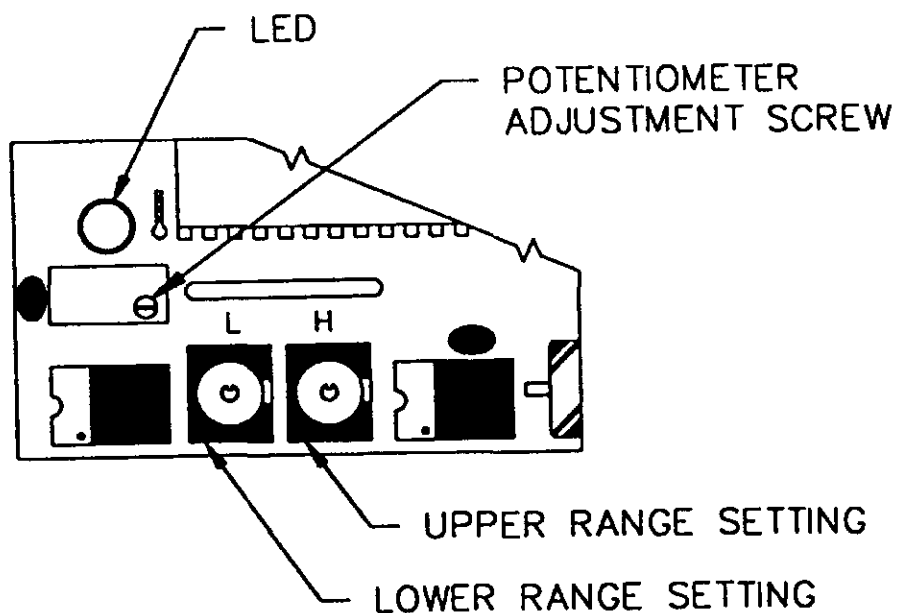

Figure 1
2. With power on, pull pendant trigger to full on position. Adjust potentiometer adjustment screw located next to the red light (see Figure 1) until light just turns off, then turn trim pot back until the light just comes on. The light should stay on during the full trigger movement. Clockwise rotation to the trim pot will turn light off. Counterclockwise rotation will turn the light on. This “tunes” the amplifier to the trigger potentiometer.
3. After warming the hydraulic system oil, determine which function should be used to set the low position switch (ROTATE USES THE LEAST AMOUNT OF PRESSURE). Activate that function with trigger released, and turn the lower range setting dial (REF. FIG 1: MARKED WITH “L” ON CIRCUIT BOARD) until the desired speed is reached. The “Zero” and the “F” on the dial are opposite ends of the switch. To adjust the low set point, **turn CLOCKWISE DIRECTION for INCREASED FLOW, COUNTER CLOCKWISE DIRECTION for DECREASED FLOW**. This adjusts the “Threshold Speed” for the trigger in the released position.
4. Operate the boom up function with trigger pulled back to the maximum position. Turn the high range setting dial (REF. FIG 1, MARKED WITH “H” ON CIRCUIT BOARD) until there is a noticeable decrease in speed, then back up one or two notches as desired. “Zero” is the maximum speed setting and “F” is the most reduced speed setting. To set the high range dial, **turn CLOCKWISE DIRECTION for DECREASED FLOW,**
IF THE THREE FUNCTIONS, BOOM DOWN, HOIST UP AND EXTEND OUT, QUIT WORKING, the problem probably lies in either the Overload System or the Anti-2-block system or both. If these three functions are NOT WORKING and most other functions are, an investigation should be made as follows: (refer to Figure 1)